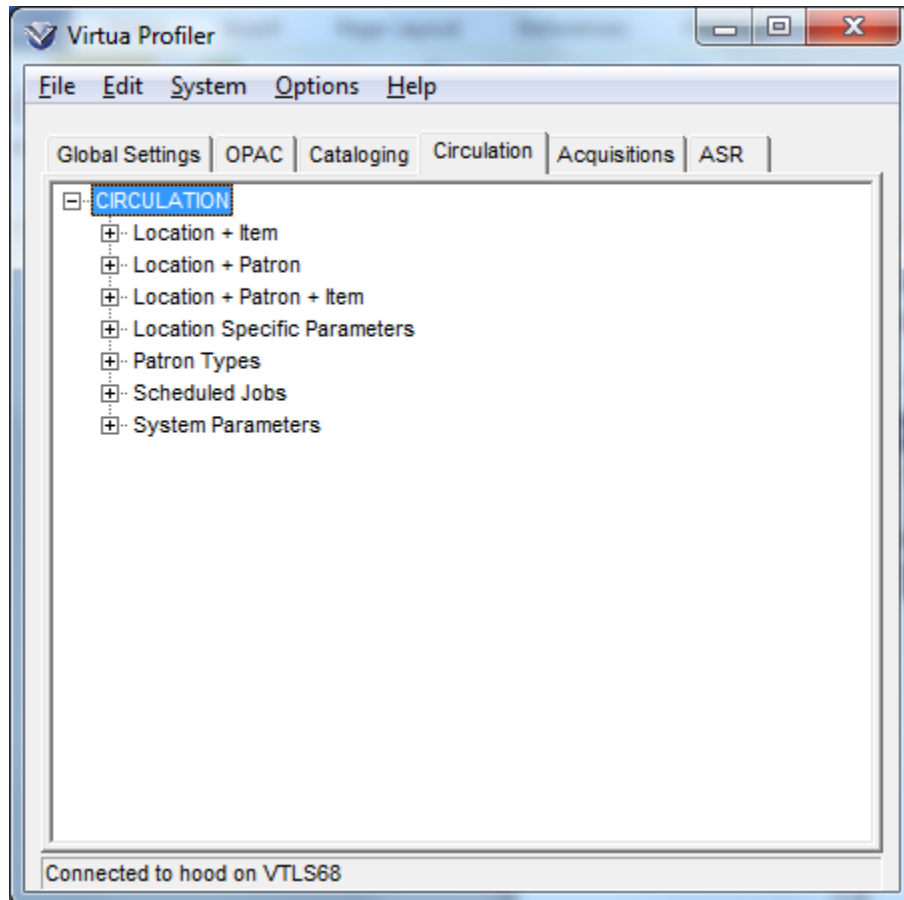

Figure 1-2. Circulation Parameters Main Headings Expanded
The tree structure expands to display a list of Circulation Parameters (Figure 1-2).
2. Double-click CIRCULATION to see the expanded list of Circulation parameters (*Figure 1-2*).